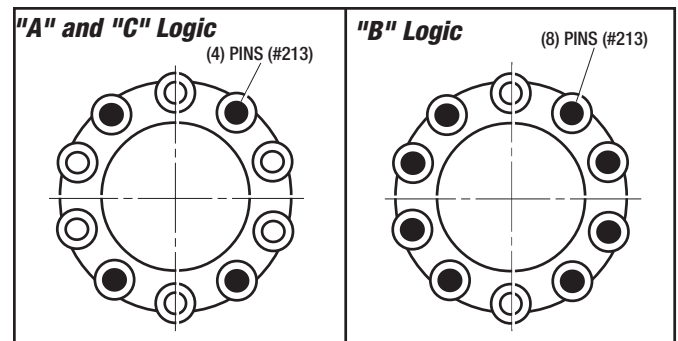

Figure 9.10 - Installing Pins (#213) into Piston (#3)
3. Apply **Red Loctite #271** to the appropriate number of holes in the Piston (#3) and install an appropriate number of Pins (#213) into the holes. There are (4) Pins for "A" and "C" Logic and for "B" Logic there are (8) Pins. (See Figure 9.10) Clean off any excess adhesive.